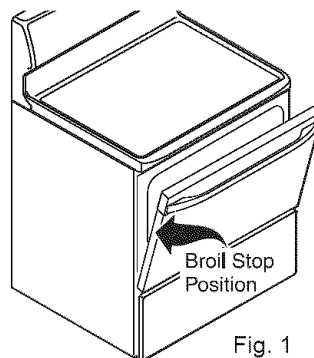

Fig. 1
The Speed Bake™ Cooking System uses a fan to circulate the oven's heat uniformly and continuously around the oven (See Fig. 1). This improved heat distribution allows for fast, even cooking & browning results. It also gives better baking results when using 2 racks at the same time.
6. Place the broiler pan & insert on the oven rack (some models). **Open the oven door to the broil stop position when broiling** (See Fig 1).